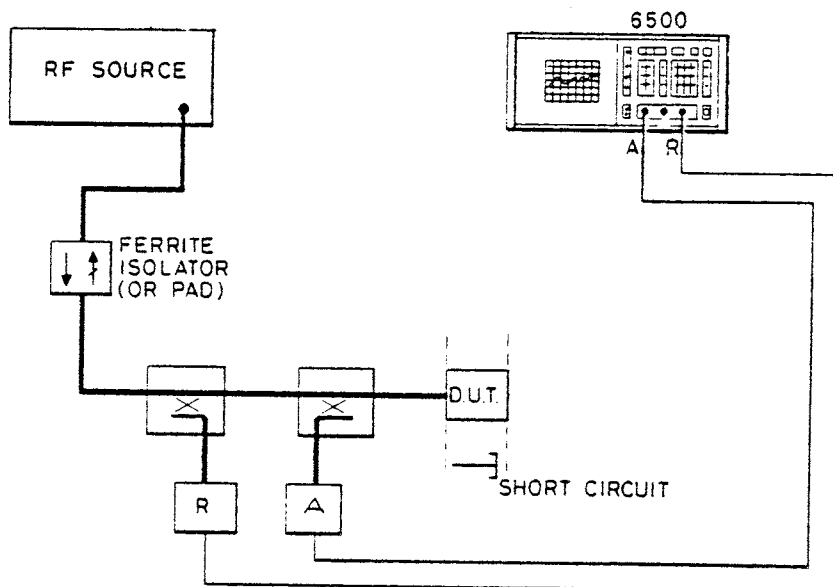

Fig. 2 VSWR measurement, interconnecting diagram
10. A v.s.w.r. reading of the 6514 can be obtained by reference to Chap. 3-2, paras. 16 and 17 of the Operating Manual Vol. 1. Connections should be made as shown in Fig. 2 below, and not as illustrated in Vol. 1 Chap. 3-2, Fig. 8. There, detector A is connected so that a transmission loss measurement can also be carried out. VSWR should be better than 2.5:1.